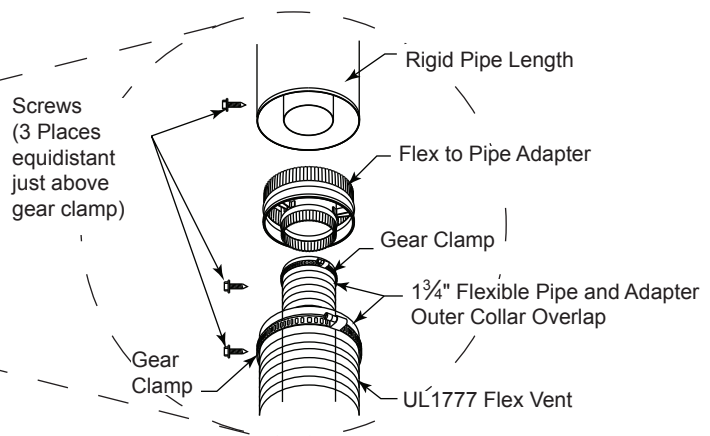

Figure 39 - Typical Pipe Connection
2. Review Figure 39 and corresponding instructions for proper overlap, clamp and screw placement.